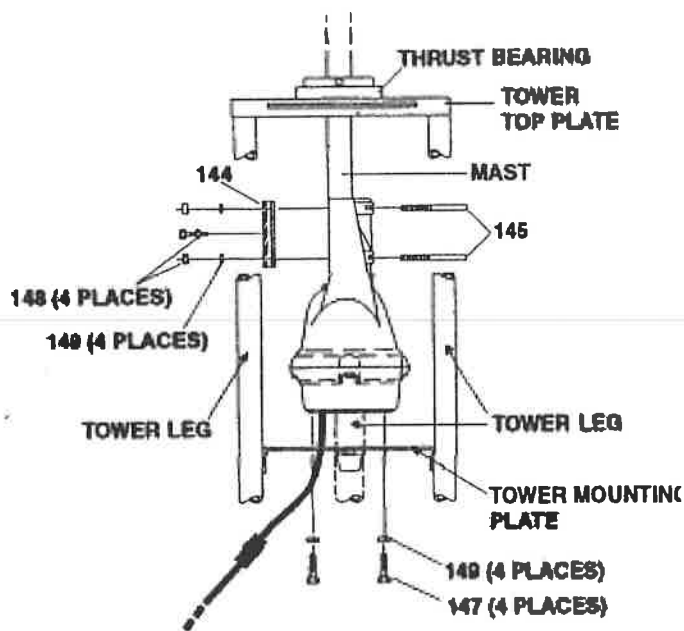

Figure 4
There are three general types of installations (see Figures 4, 5 and 6).
The rotator is mounted inside a tower (see Figure 4) to the flat tower plate by means of four (4) bolts furnished in the hardware kit. Use the following procedure:
- The rotator is attached to the tower plate by means of four (4) bolts and lockwashers (see Figure 4). The flat tower plate must be drilled in four (4) places using the template provided with this manual unless the tower plate is already properly drilled.
- Tighten the four (4) bolts, but not to final tightness. Observe how the rotator turns. It must rotate in such a manner as to turn the mast concentrically in the thrust bearing.
- Trial assemble the mast to the top of the rotator using the U-bolts, nuts and lockwashers through the rotator and clamp plate as shown in Figure 4. The maximum mast diameter that may be used is 21/16" O.D. We recommend 1 1/2" nominal steel pipe with 1.9" O.D. in standard wall thickness of .145". For stacked arrays or very large beams, we recommend extra heavy-duty wall thickness of .200". Both steel pipes can be purchased to specification ASTM120.